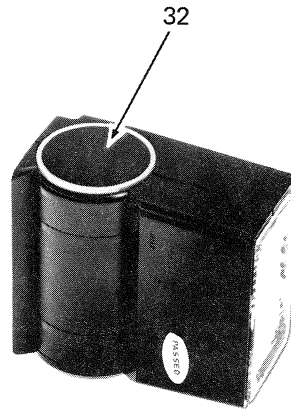

Figure 2-6. Removal of Bounce Axle Plates
- A. Take off both bounce axle cover plates (32) by lifting off with thin blade. (Figure 2-6)